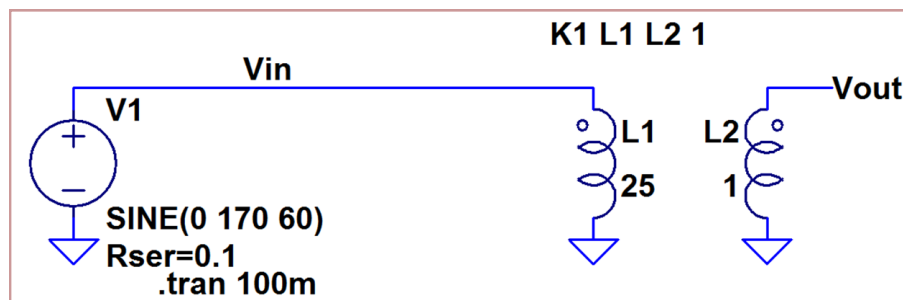

Figure 14. Coupled inductors in LTSpice.
- Simulate the schematic shown in Fig. 14. The inductor symbol with a dot is found by clicking on the "Select Component Symbol" button and selecting "ind2". The spice code "K1 L1 L2 1" tells LTSpice that there is coupling between the inductors L1 and L2. The value can be between 0 and 1, with 1 indicating perfect coupling. The values for the inductors are very high at 25H and 1H. These values are unrealistic but very high inductance values are needed to approximate an ideal transformer. The ratio of the inductances here is 25, the square root of which is 5, the voltage ratio of this transformer. The input voltage is 170 V because that is the peak value of 120 V RMS. You will have to add a small series resistance to the input voltage source because otherwise, LTSpice has issues calculating a solution. Note that both sides of the transformer are grounded. This is done because circuits can't be left floating in LTSpice. In practice you would not ground both sides of the transformer since this removes the isolation.